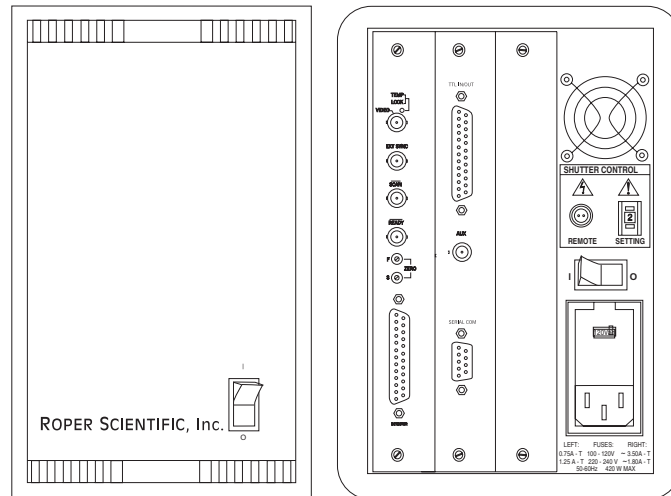

Figure 1. Power Switch Location
**POWER Switch and Indicator:** The power switch location and characteristics depend on the version of ST-133 Controller that was shipped with your system. In some versions, the power switch is located on the front panel and has an integral indicator LED that lights whenever the ST-133 is powered. In other versions, the power switch is located on the back of the ST-133 and does not include an indicator LED. Figure 1 shows the two locations